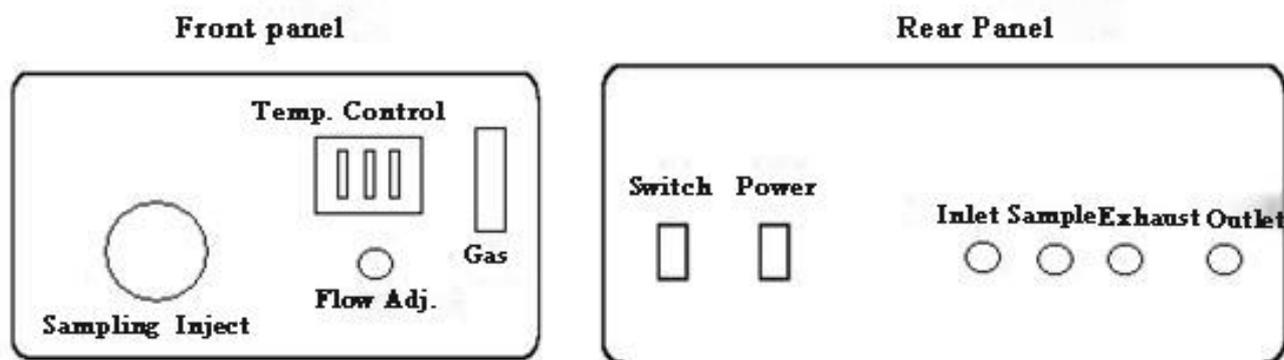

Fig.4-6
(2) Gas sample injector (Fig.4-6)